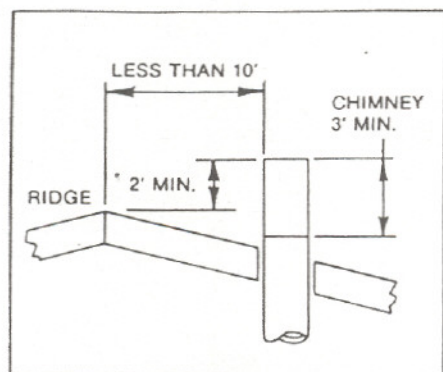

Figure 11
1. If the horizontal distance from the side of the chimney to the peak of the roof is 10 feet or less, the top of the chimney must be at least 2 feet above the peak of the roof, but never less than 3 feet in height above the highest point where it passes through the roof. See Figure 11.